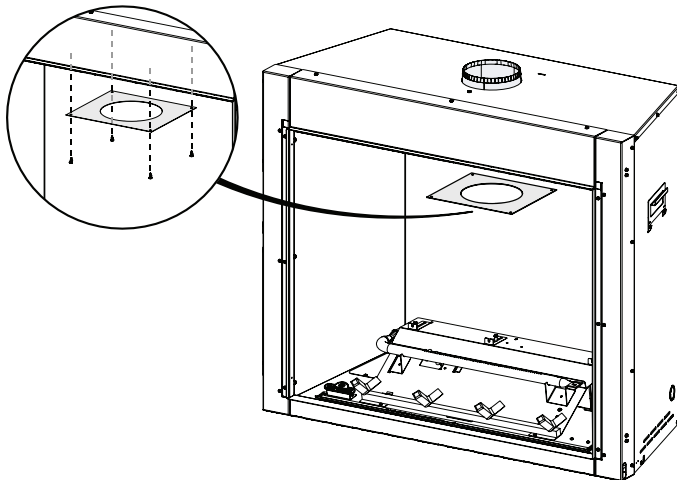

FIG. 1
1. Remove the screws securing the vent kit cover (FIG. 1).